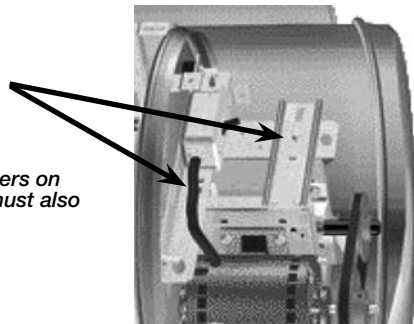

Figure 11
11. For CWB units: Belt tension can be adjusted by loosening four fasteners on the drive frame, see figure 11. The motor plate slides on the slotted adjusting arms and drive frame angles in the same manner.